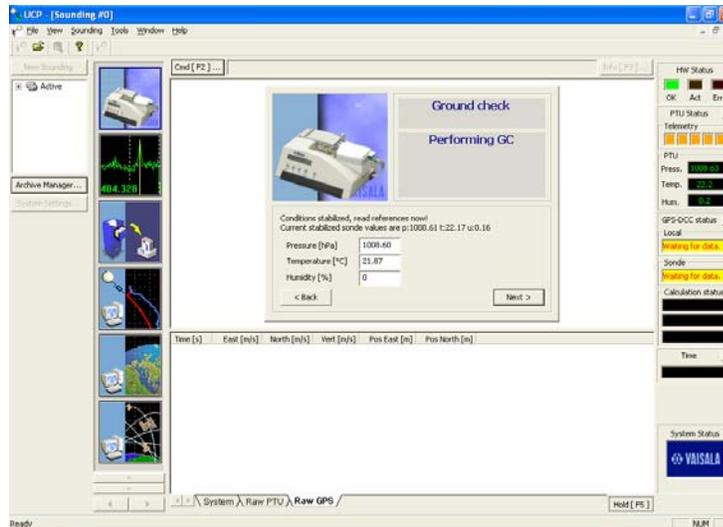

Figure 10
34. Wait until you see the next screen (Figure 10). The spaces for **Pressure**, **Temperature**, and **Humidity** will be blank in the middle window. Do the following: